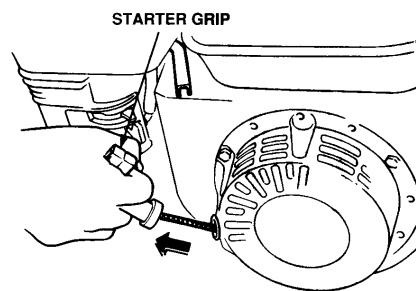

Figure 17. Starter Grip
5. If your generator is a recoil start only (no battery), grasp the starter grip (Figure 17) and slowly pull it out. The resistance becomes the hardest at a certain position, corresponding to the compression point. Pull the starter grip briskly and smoothly for starting.